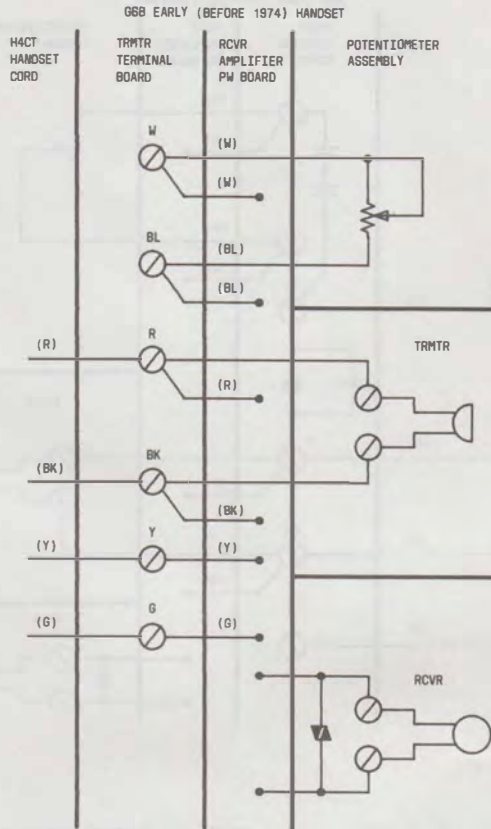

Fig. 1—G6B Early (Before 1974) Handset, Connections
3.04 Schematics: Internal connections of the amplifier type handsets are shown in Fig. 1 through 8.
- (2) Loop and tie or tape the excess length of white conductors to approximate length of red and black conductors.
- (3) Insert conductors in transmitter bowl carefully so as not to disrupt the printed circuit board.
- (4) Connect to transmitter terminal board as shown in Fig. 1, 2, 3, 4, 5, or 6.